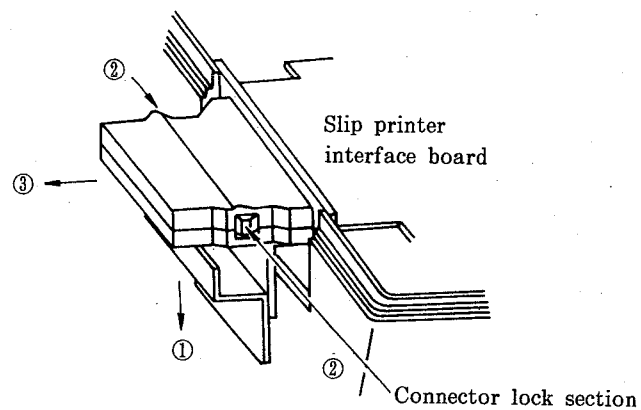

Fig. 46
(3) ER-52SP removing procedure
Loosen the connector fixing screw and slide down the connector angle (1). Press the connector lock section and pull out the ER-52SP connector. (See Fig. 46.)